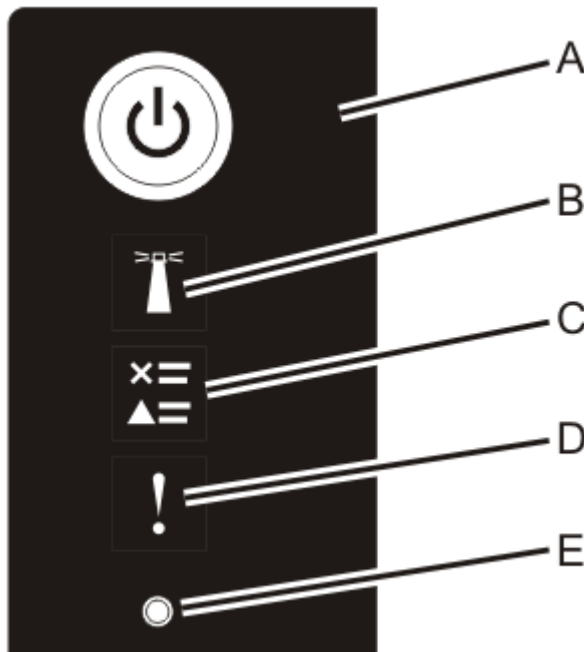

Figure 2. Control panel LEDs
3. Press the power button **(A)** on the control panel, as shown in Figure 2 on page 13.